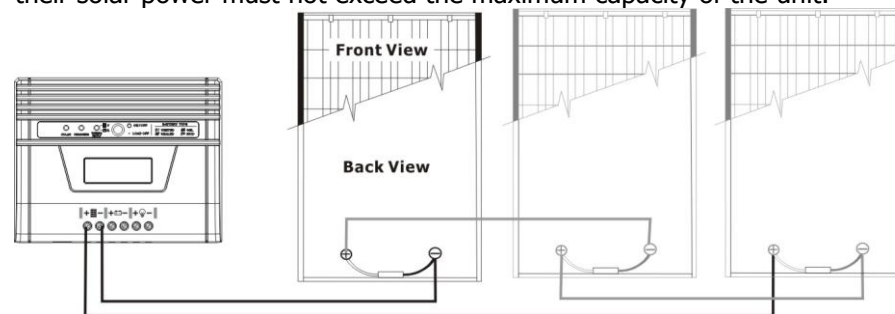

Fig. 8
- 2) Multiple solar modules in series connection (Refer to Fig. 8):** All modules must be equal in voltage and amp hour capacity. The sum of their voltages must be equal to the nominal DC Voltage of the unit. And, the sum of their solar power must not exceed the maximum capacity of the unit.